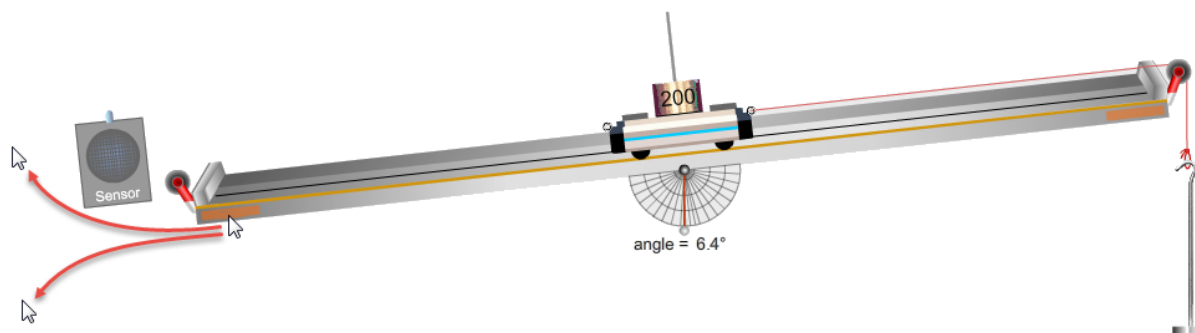

Figure 2 – Adjusting the Track Angle (The vertical section of string has been shortened to reduce the size of the figure.)
- Click on one of the small rectangles on either end of the track, near the pulleys. (See Fig. 2.) You can now drag up or down to adjust the track angle through a range of $\pm 12^\circ$. The cart will respond just like you'd expect.